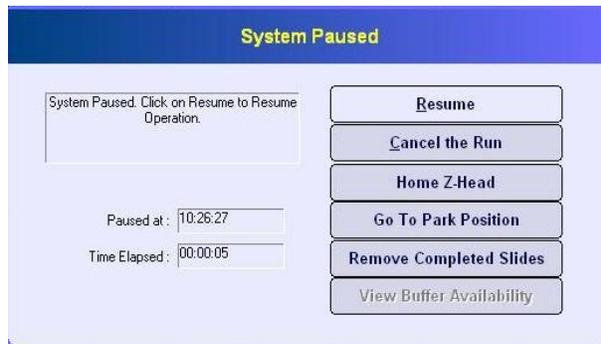

Figure 51 <System Paused> Message Box
1. Select **<Pause>** at the top of the **<Xmatrix: Staining System>** window. The **<System Paused>** message box (Fig. 51) will be displayed.